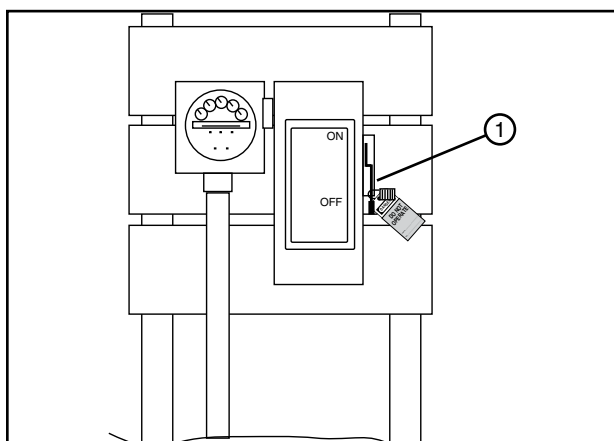

Figure 30-2 1. Power Service Disconnect
2. Turn OFF and lock the electrical service disconnect at each tow location. See figure 30-2.